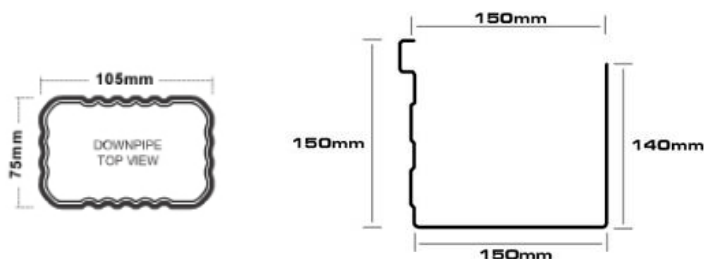

Figure 6: Cross sections of 150mm seamless aluminium industrial box gutter and OGEE downpipe.
1. 150mm Industrial box gutters and 105x75mm OGEE down pipes connected to the water tanks (See Figure 6). Gutters, down-pipes, bends, fittings and must be seamless aluminum according to SANS standards. All gutters are to be made on site, to exacted height from roof to the ground level. Pipes and gutters sloped evenly, well secured to wall and roof. All gutters and down pipes should be Chromadek coated in off-white colour / lite cream or as otherwise approved by the Engineer.